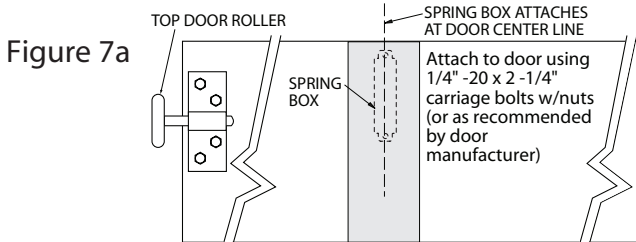

Figure 7a
- 2) Position the door brackets on the door so that they are directly under the tracks and **even with or above the highest door rollers, Fig. 7a**. Measure to make sure they are both the same distance from the top of the door.